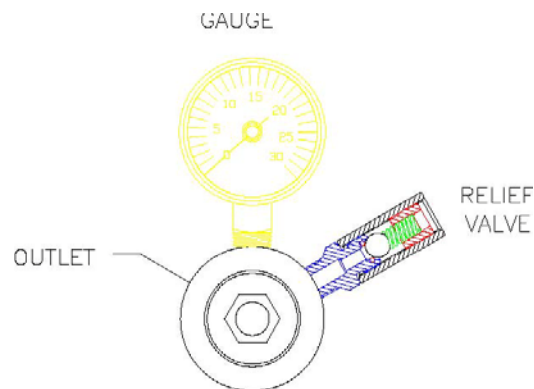

FIGURE 1
2.1.3 Install a relief valve and a gauge in the appropriate ports (see Figure 1).